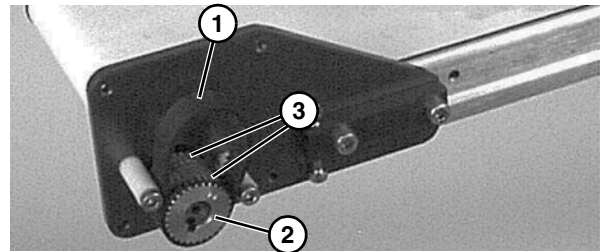

Figure 56
4. Remove old timing belt (Figure 56, item 1).
5. Place new timing belt (Figure 56, item 1) over driven pulley (Figure 56, item 2) and between belt flanges (Figure 56, item 3).